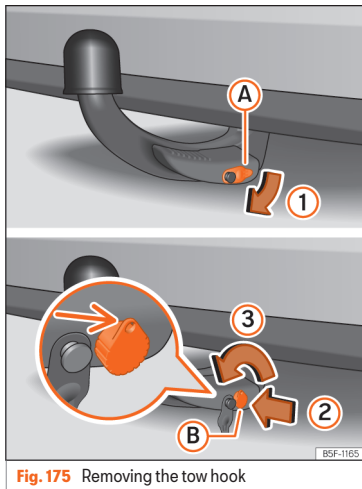

Fig. 175 Removing the tow hook
- Remove cover (A) from lock (1) »»» Fig. 175.
- Insert key (B) in the lock (2) »»» Fig. 175.
- Turn the key to the left (3) just half turn, until the hole in the key is facing upwards »»» Fig. 175.